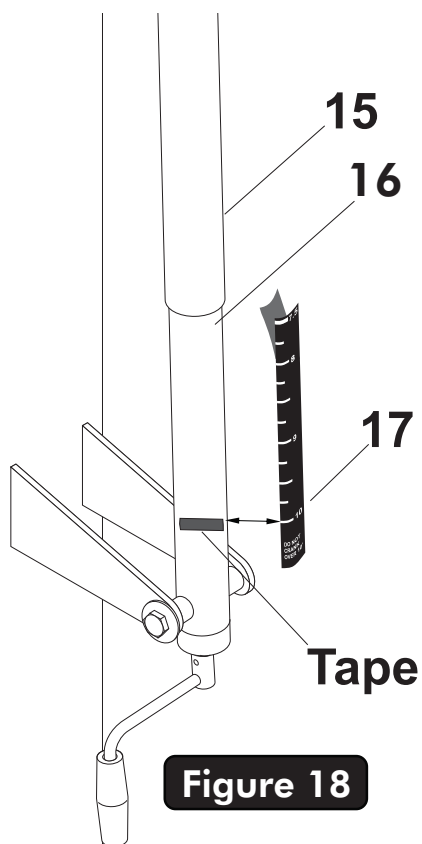

Figure 18
- 32.** Remove the adhesive backing from the Height Decal (#17). Next, carefully align and stick decal to backside of steel actuator (#16) starting at the **10 ft mark first**. Be sure to keep the height decal straight and rub out all air bubbles. See **Figure 18**.